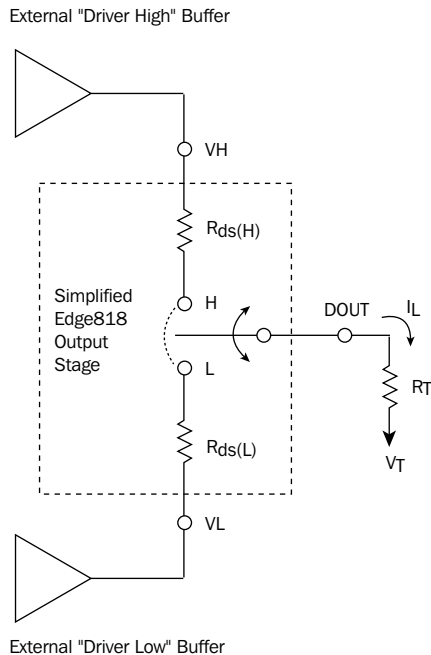

Figure 6. Simplified Functional Schematic of Edge818 Output Stage and External Buffers
In addition to the VCC and VEE power supply levels, the “driver high” (VH) and “driver low” (VL) levels used in an application also have an effect on the total power dissipation of the device illustrated using Figure 6.
The CMOS switches of the Edge818’s output stage have on-resistance values (depicted by $R_{ds(H)}$ and $R_{ds(L)}$ in Figure 6) that vary as a function of VH and VL voltage levels. The amount of current required by the load impedance, R_T , is also a function of the VH and VL voltage levels as follows:
Switch in Figure 6 is in position “H”:
Switch in Figure 6 is in position “L”: